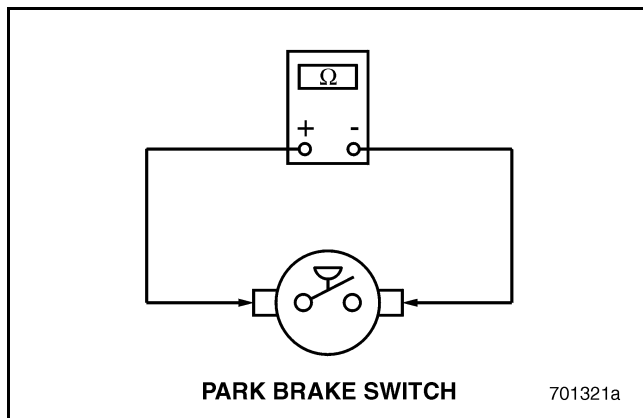

Figure 696
4. Check for continuity across the two terminals of the Park Brake Switch (see Figure 696).